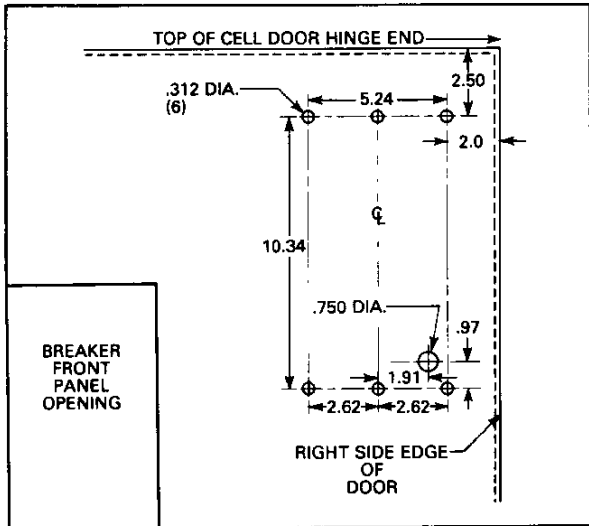

Fig. 8. Amptector Mounting Details Vertical Mount AK-2A-50/75/100 Front View of Cell Door
1. Acquaint yourself with the location of the mounting holes and placement of the amptector, Fig. 8.
2. Facing the front of the cell door scribe a horizontal line 2.5 inches down from the top of the door and parallel to the top edge of the door. Scribe a vertical line 2.0 inches from the top right side of the door and parallel to edge. The intersection of these two lines locates the hole for the screw holding the amptector at the top right side of the door, Fig. 8.
3. From the vertical line measure a distance of 5.24 inches and scribe a parallel line, Fig. 8 and from the horizontal line measure a distance of 10.34 inches and scribe a line parallel to the horizontal line. This now locates the four (4) outer hole locations. Now locate the center line and the two inner holes, Fig. 8.
4. Using the centerline and the left vertical line locate the center of the grommet hole, Fig. 8.